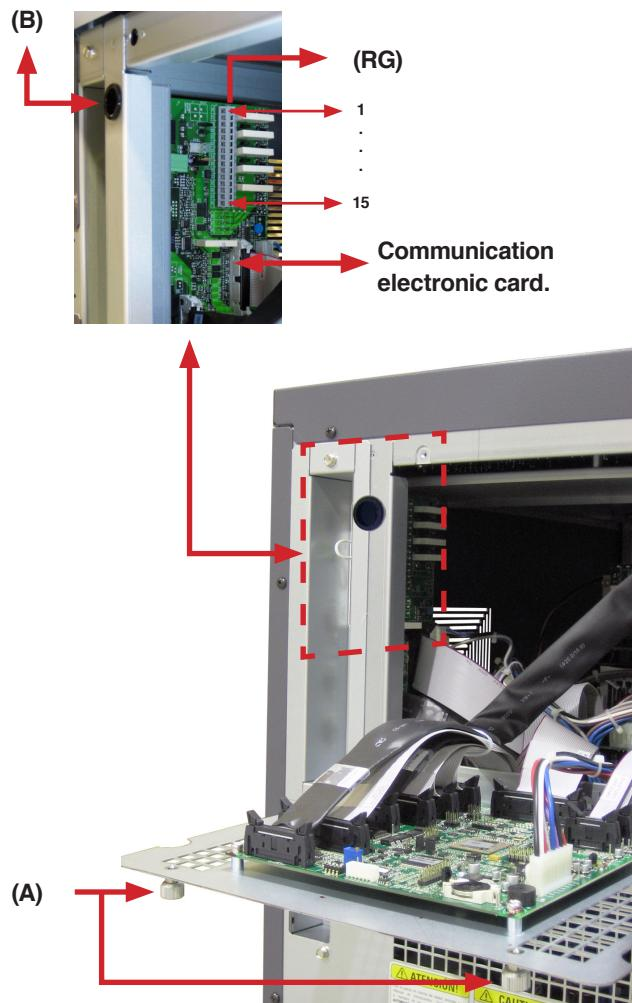

Fig. 2. Location communication electronic board.
- Pull from them to open the hinged protection cover, of the electronic control and drop it till the stopper (see Fig. 2).
- Communication electronic card will be accessible to make the needed connections to the dry contact terminal strip (see Fig 2). Cable trunk will be passed through the cable gland (B) previously.